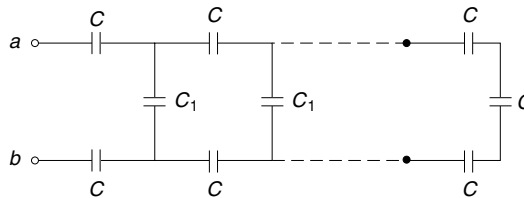

Fig. 1.38 Capacitance configuration (Ex. 1.30)
1.30 In Fig. 1.38, $C = 9\text{F}$; $C_1 = 6\text{F}$. Find the equivalent capacitance across $(a - b)$.